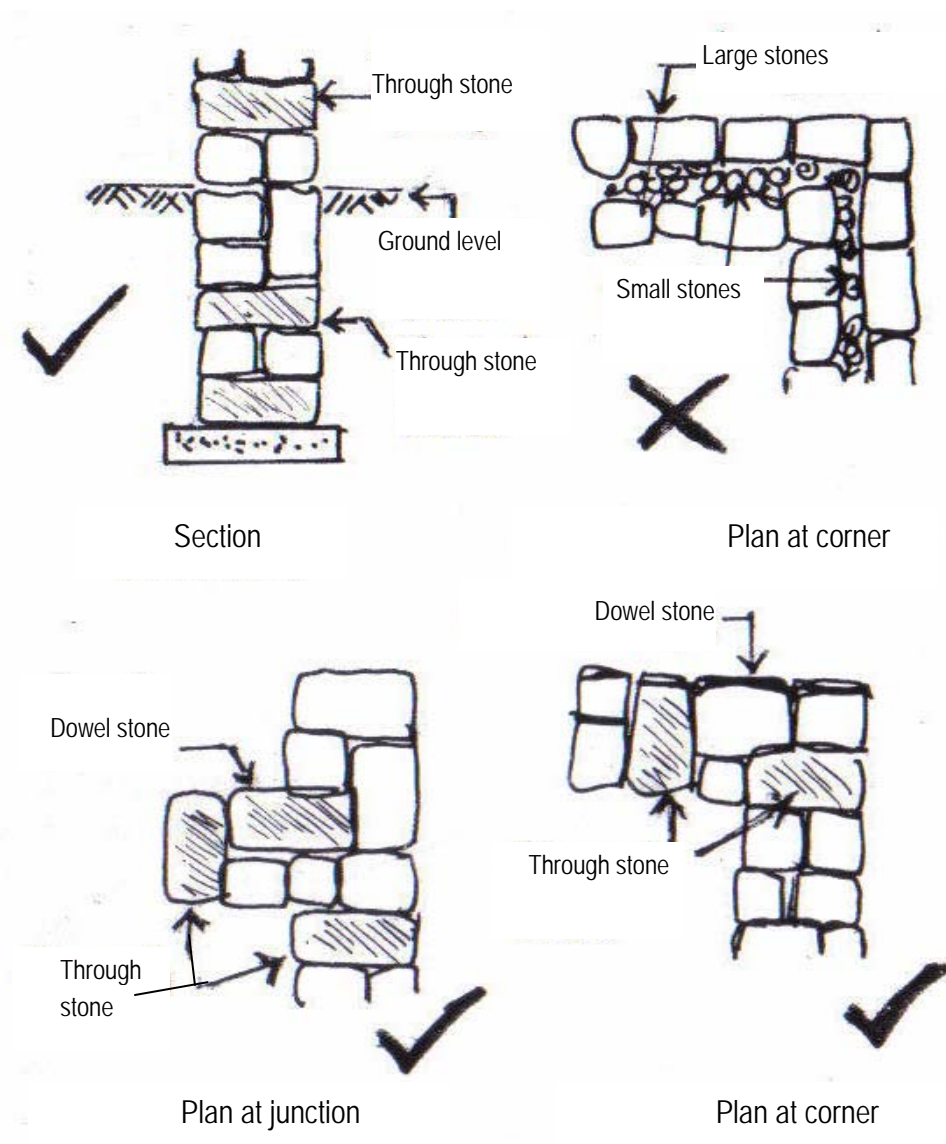

Fig 6A - **Foundations**
- Made sure that through-stones (stones that span the full width of the wall) are placed at regular intervals throughout all foundation walls (See fig. 6A)
- Made sure that dowel stones (stones that project outside the wall surface for bonding with connecting walls or wall extensions) are placed at corners and junctions of walls in order to bond the walls that join each other (See fig. 6A)